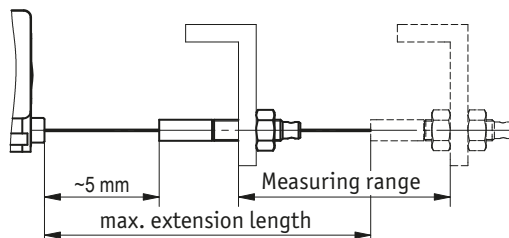

Fig. 3: Extension length check
- ▶ Do not extend the wire beyond the specified maximum extension length (see Fig. 3). Max. extension length = measuring range (see chapter 11) + 5 mm.
- ▶ Conduct the wire perpendicular to the wire outlet (see Fig. 3).